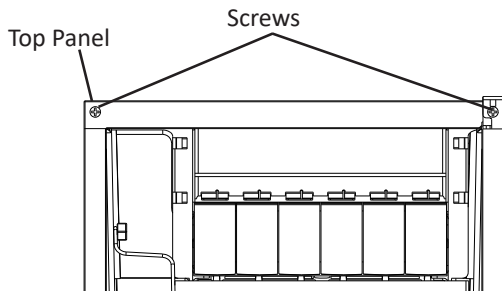

Fig. 11
- a) Contact your local distributor to purchase Perlick hinge kit. The kit contains "hinge (A)-left."
- b) Remove the 2 screws securing the top panel, then lift it off. See Fig. 11.